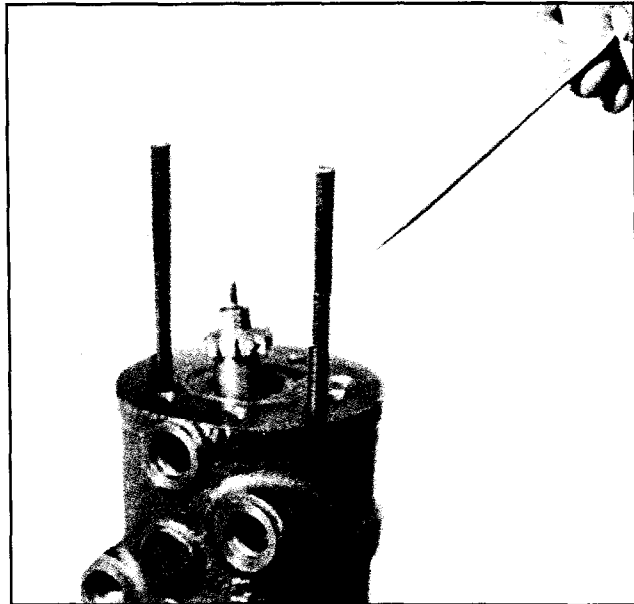

Figure HGA-22
17. With the drive link (30) installed as described above, assemble two assembly posts into the housing (25) as shown in Figure HGA-22. These assembly posts can be made by simply cutting